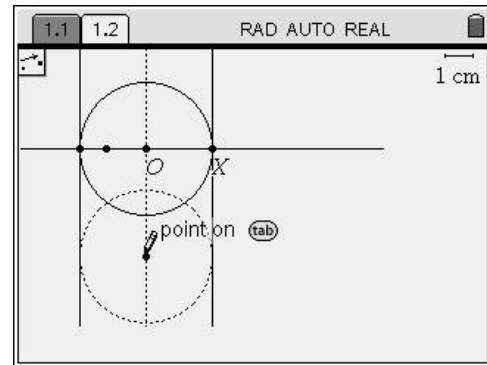

Figure 12
12. Move the cursor until the center point of the circle flashes and the text reads, “point O”. Press enter . Then move the cursor to the circle until the circle flashes and the text reads, “circle”. Press enter . Translate the circle down and position the cursor on the center line. The circle and the center line are both dashed and the text reads, “point on”. (Figure 12) Press enter . Immediately label the center of the bottom circle “Y” by pressing $\text{ctrl} \text{ } \text{enter} \text{ } \text{Y}$. Then press esc to put the translation tool away.